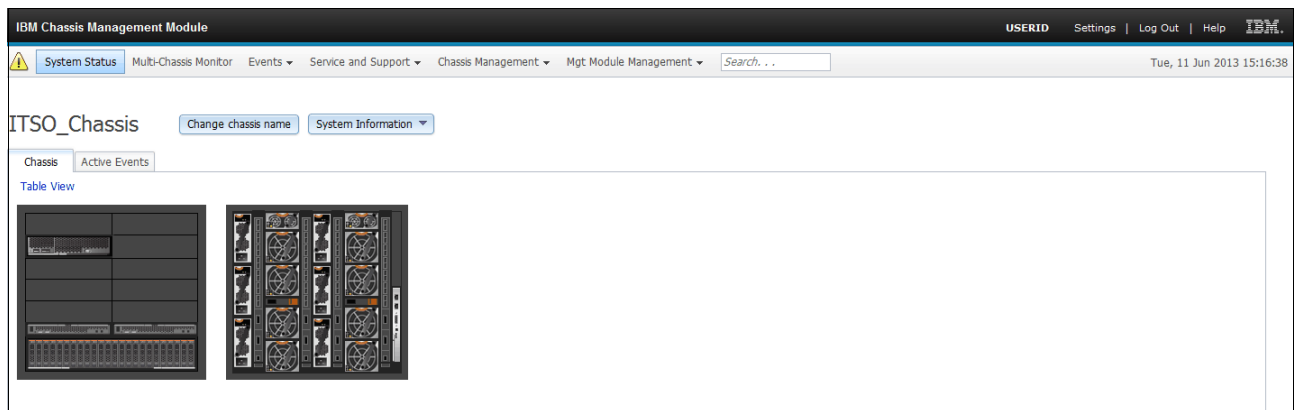

Figure 3-6 IBM Flex System Chassis Management Module
3. After a successful login, CMM opens the default view showing the Chassis Map, as depicted in Figure 3-6.
Disclaimer: In Figure 3-6, and also in some preceding figures, you might find a *yellow* exclamation point on the top left of the CMM interface along with yellow boxes around some components, indicating a error condition. The reason for this visual discrepancy is that the various components of the chassis were being tested during the time of writing of this book.